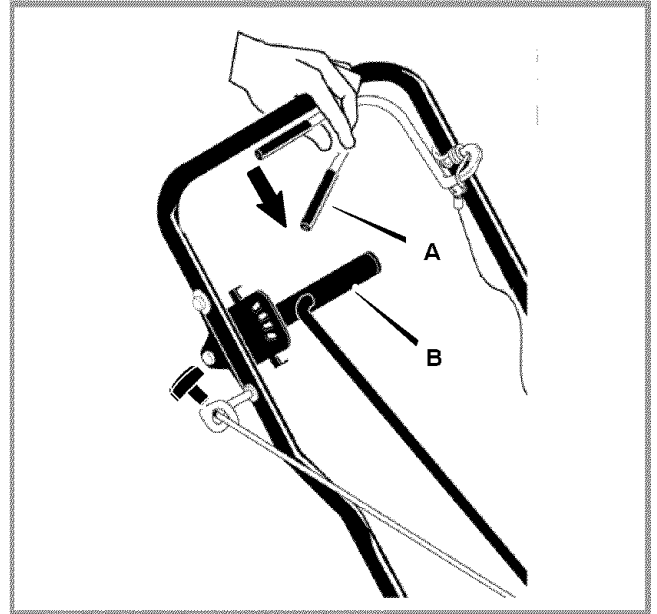

Figure 10: Operating Controls
Release the engine stop lever (A). See Figure 10.
Move the depth control lever (B) forward to raise the blade. Then, release the engine stop lever (A) (see Figure 10).